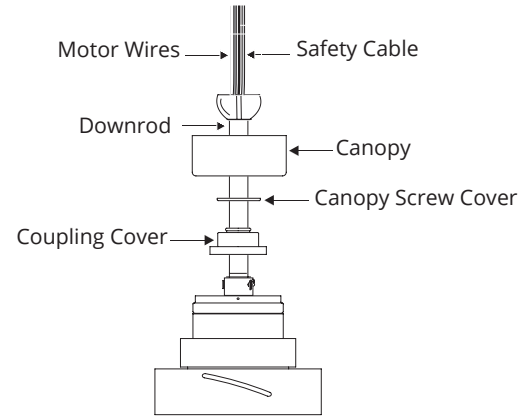

FIG. 10
1. Slip the coupling cover, canopy screw cover (painted side face down), and canopy (opened side up) onto the downrod (FIG. 10). Coupling cover goes all the way to the bottom.
2. Carefully reinstall the hanger ball onto the downrod, being sure that the cross pin is in the correct position, the setscrew is tightened and wires are not twisted (FIG. 10).